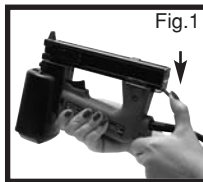
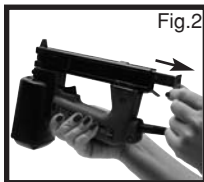

Fig.1
Fig.2
- a. Press Staple Pusher Release in direction of arrow as shown in **figure 1**. This will release the staple pusher assembly **figure 2**, which will easily slide outward until it reaches its stop point. **Do not try to force the pusher assembly out completely.**
- 2 **To clear and clean staple cavity.** Unplug the ET155™ staple gun and hold gun so that nose is facing away from you. Lift and release Pusher Bracket at rear of tool **figure1**. Slide Staple pusher assembly to expose staple chamber. Remove all staples in chamber. To remove front of main frame, turn gun over so that side showing front cover latch on frame is accessible. Grasp latch handle firmly and lift to release **figure4**. Once latch handle is lifted, spring clip will automatically release front cover. Pull off front cover of magazine to expose staple cavity **figure 5**.